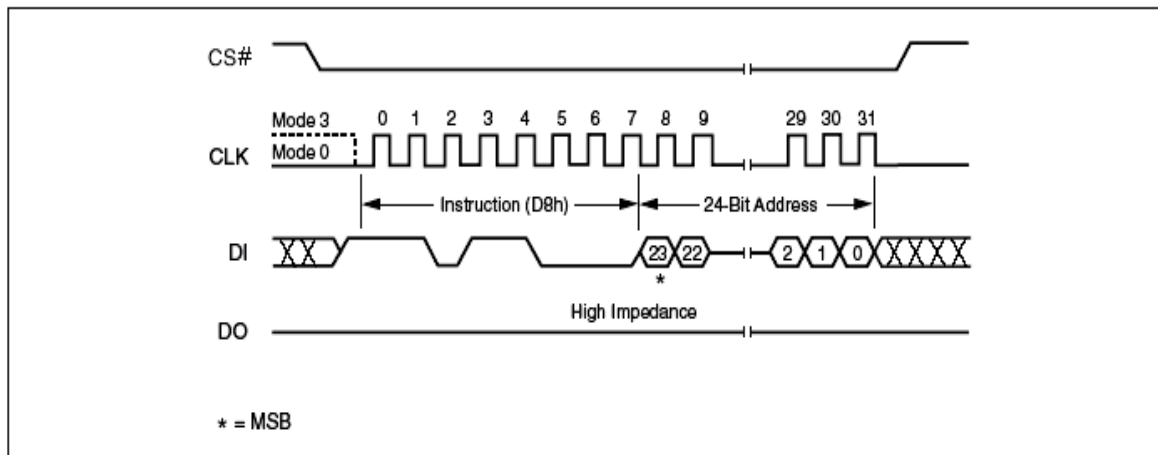

Figure 36. 64K Block Erase Instruction Sequence Diagram
The instruction sequence is shown in Figure 36. Chip Select (CS#) must be driven High after the eighth bit of the last address byte has been latched in, otherwise the Block Erase (BE) instruction is not executed. As soon as Chip Select (CS#) is driven High, the self-timed Block Erase cycle (whose duration is t_{BE}) is initiated. While the Block Erase cycle is in progress, the Status Register may be read to check the value of the Write In Progress (WIP) bit. The Write In Progress (WIP) bit is 1 during the self-timed Block Erase cycle, and is 0 when it is completed. At some unspecified time before the cycle is completed, the Write Enable Latch (WEL) bit is reset.